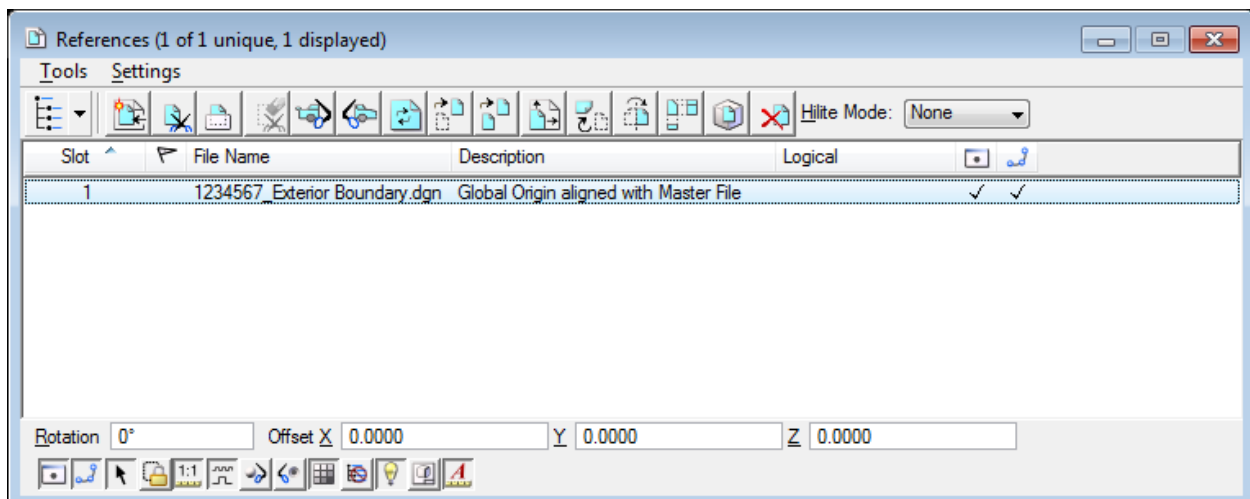

Figure L5-2 References
- The inputs should now correspond to the screen capture depicted in *Figure L5-2* (as shown below). Verify to ensure that your input matches the screen capture.